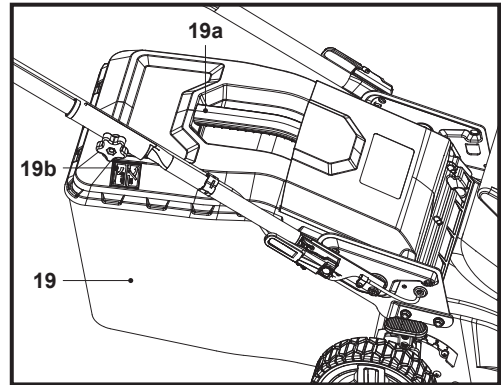

Fig. 13
2. When the hatch (19b) is closed, the grass catcher (19) is full and must be emptied (Fig. 13).